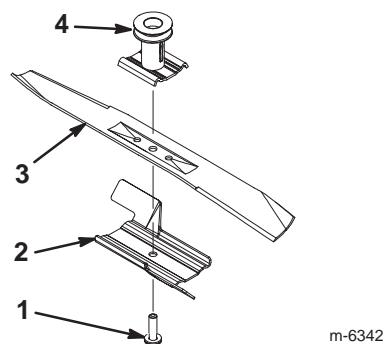

Figure 18
2. Remove the blade bolt, the accelerator, and the blade (Fig. 18).
1. Install a sharp, balanced Toro blade, the accelerator, and the blade bolt (Fig. 18).